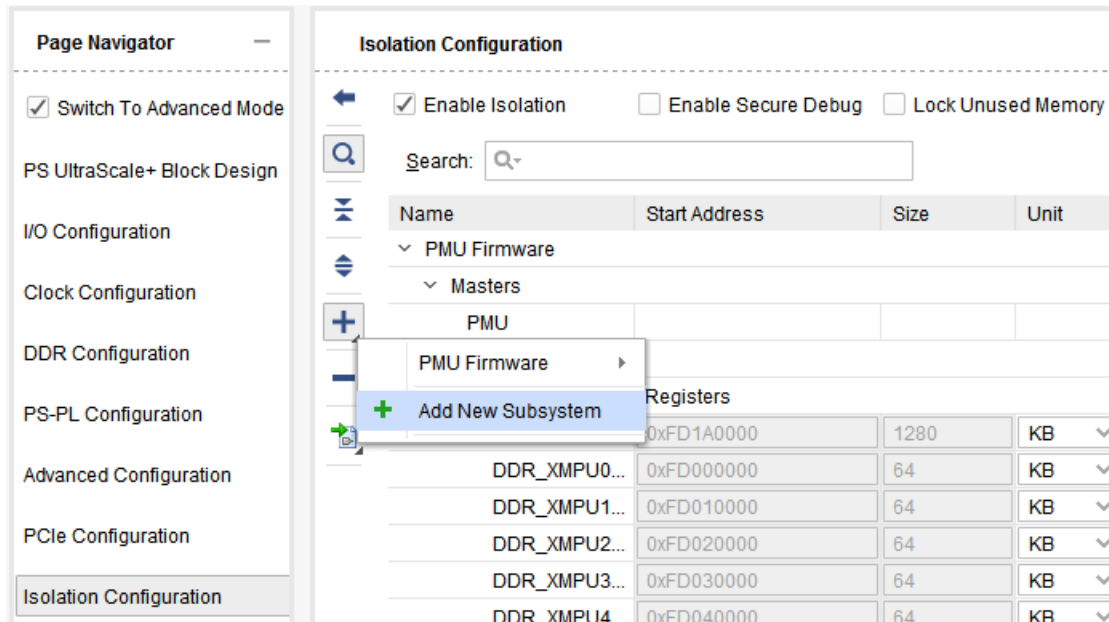

Figure 4-16: Creating a New Subsystem
1. Create a subsystem with any meaningful name using the "+" button as shown in Figure 4-16.
2. To configure Isolation, enable the Isolation feature using **Enable Isolation button** as shown in Figure 4-16.